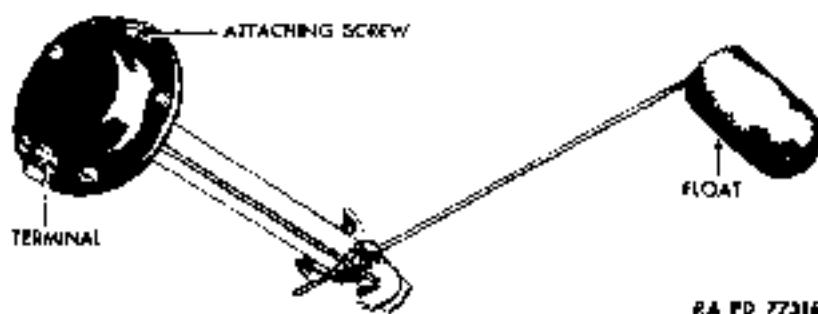

Figure 105 - Fuel Gage Tank Unit
b. **Tank Unit Removal** (fig. 105). Remove the five screws and lock washers which secure fuel tank shield to fuel tank brackets, and remove shield. Disconnect wire from terminal, remove the four screws and lock washers which secure tank unit to tank, and lift unit out.